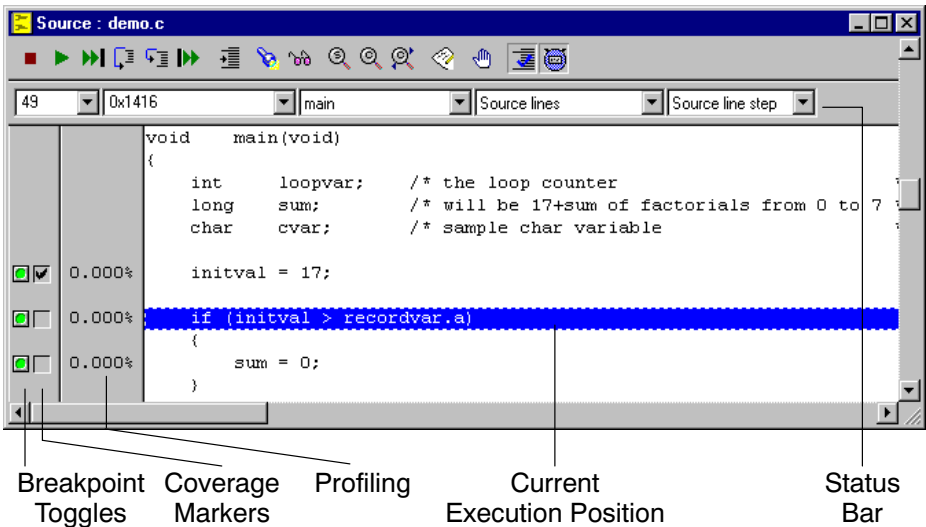

Figure 1-8: Getting Control
- Set a breakpoint at the entry of in `main()` by clicking on a breakpoint toggle at the left side of the text in the Source Window. See figure 1-8.
- Click on a breakpoint toggle (as shown in figure 1-8) to set or to remove a breakpoint. A green colored toggle shows that no breakpoint is set. A red colored toggle shows that a breakpoint is installed. An orange colored toggle shows that an installed breakpoint is disabled.